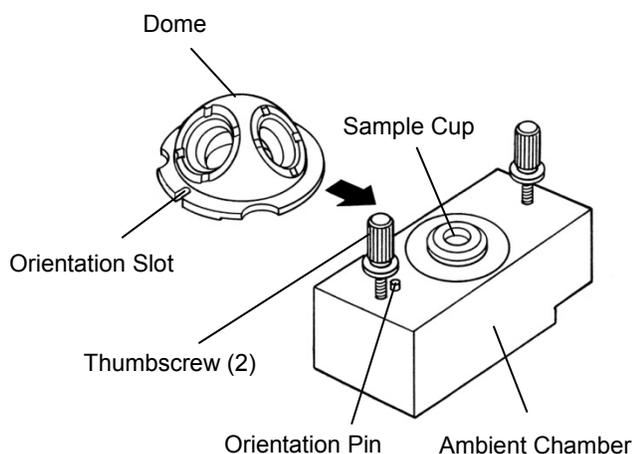

Figure 9 • The Ambient Chamber
- Locate the mounting pins on the side of the HVC (Figure 9) in the pin holes where the sample stage was located.